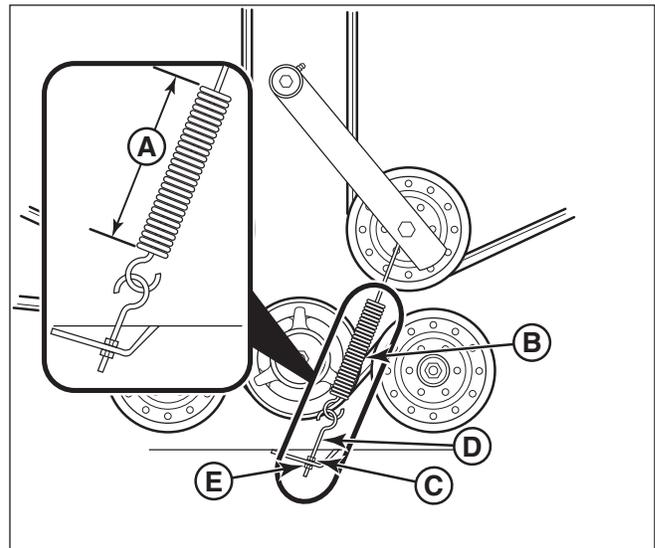

Figure 50. Mower Belt Idler Spring Length
3. Measure the coil length (A, Figure 50) of the mower belt idler tensioner spring (B). The measurement should equal the measurement as indicated in the chart. If not, continue with step #4.
4. Loosen the jam nut (C) on the eye bolt (D).
5. Turn the adjustment nut (E) until the correct measurement as indicated in the chart is achieved.